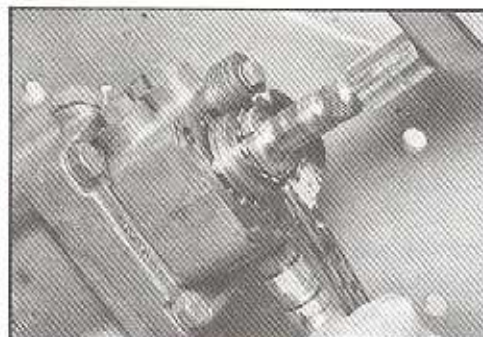
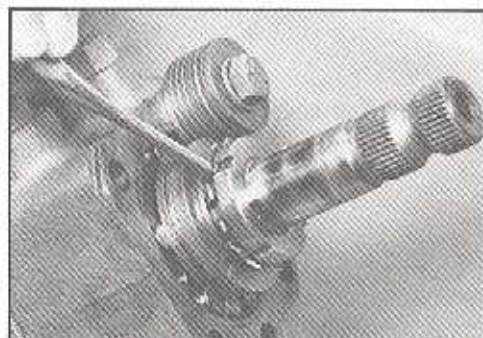

Figure 34
Figure 35
- 3.9 Torque the bearing lock nut (11) to 30 ft. lbs. (41 N m) to ensure components are sealed. Back the nut off and torque nut to 15-20 ft. lbs. (20-27 N m). SEE FIGURE 34. Back nut off approximately 20° and bend one tang of bearing lockwasher (12) firmly into a mating slot in lock nut. SEE FIGURE 35.